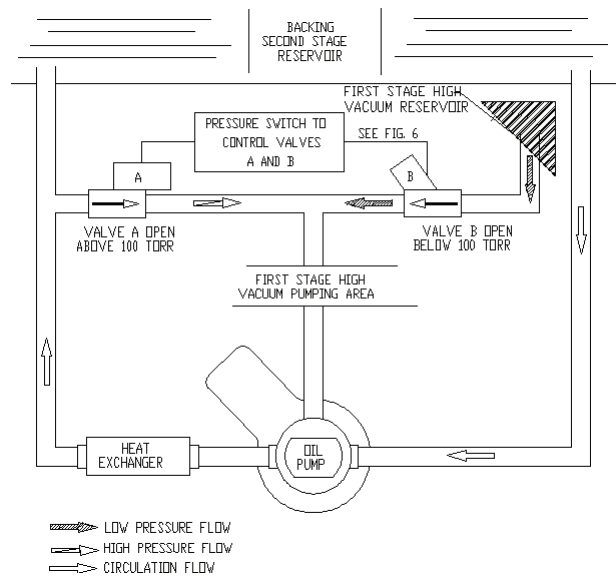

Figure 4-2 – Oil Flow - KTC-112
Figure 4-2 shows the oil flow for KTC- 12 pumps. The pump circulates oil from the backing (second) stage reservoir through a water-cooled heat exchanger and back to the reservoir. When the pump is at a pressure above 100 Torr (133 mbar), some of the oil leaving the heat exchanger is admitted through solenoid valve (A) into the high-vacuum (first) stage via the bearing located on the non-drive side of the pump. Below 50 Torr (67 mbar), the pressure switch closes solenoid valve (A) and opens solenoid valve (B), and the high-vacuum (first) stage is then supplied with degassed oil from the first stage reservoir. The oil supply pressure is provided by interstate pressure and the reservoir oil head. A solenoid valve located on the drive side of the pump, which is open when the pump is running, controls oil to the backing (second) stage. Oil is delivered into the backing stage by differential pressure.